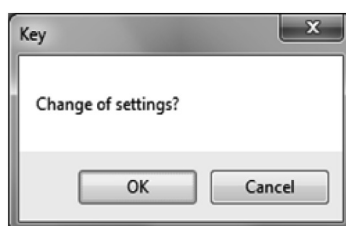

Fig.96
- ③ Set each item. Click the up/down switches on the right side of items to change the numerical values. For other items, select "ON" or "OFF".
- After all settings are complete, click the "OK" button to display a message box (Fig. 96).